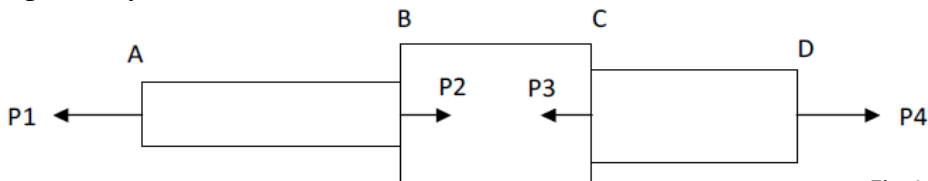

Fig.1
- 3a. i. A member ABCD is subjected to point loads P1, P2, P3 and P4 as shown fig 1. Calculate the force P2 necessary for equilibrium if P1= 45 kN, P3 = 420 kN, P4 = 120 kN. Determine the total elongation of the member assuming the modulus of elasticity to be $2.05 \times 10^5 \text{ N/mm}^2$. The length and cross sectional area of AB, BC and CD are 1000mm, 500mm, 800mm and 500mm^2 , 2000mm^2 , 1200mm^2 , respectively. [7]